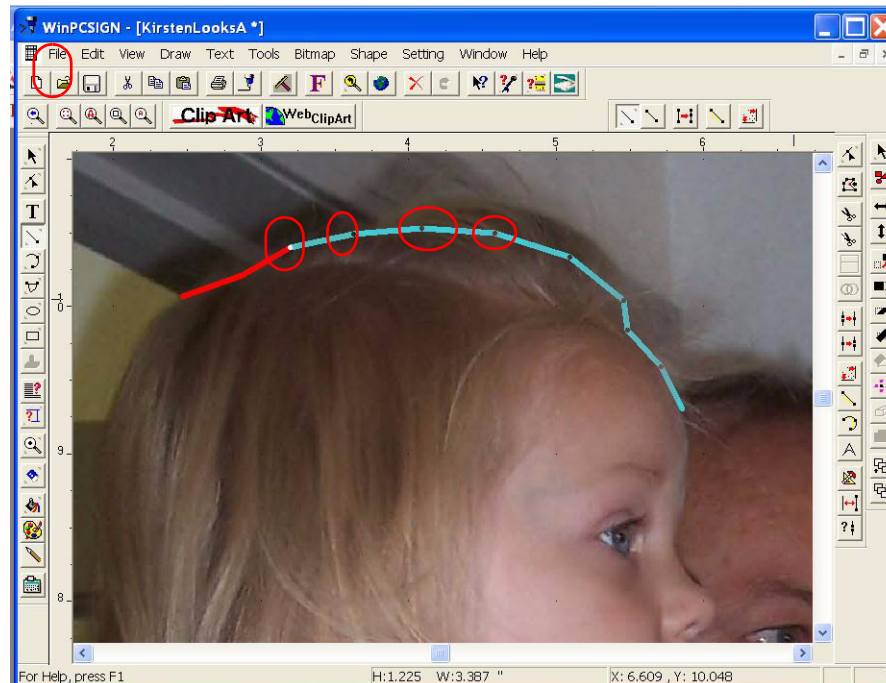

Figure 116
- 4 Continue tracing around the picture by clicking on a spot some distance away from your first line. As you click along the outline of the picture, a line fills in between the points. See figure 116.